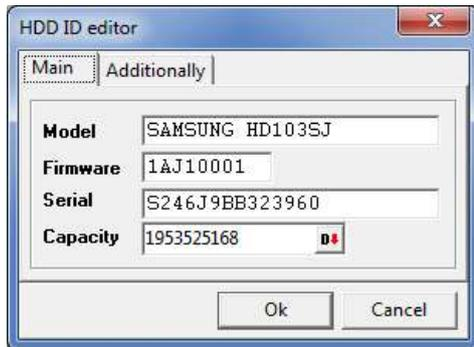

Fig. 5.14
- ◆ Editing of the model name by changing the HDD ID drive capacity in the 9D PARAM\_DM module. The Model list (Fig. 5.14) contains the manufacturer's list of standard models. When a model is selected from that list, the value in the Capacity field changes automatically. Editing of the Capacity field allows you to create nonstandard models that do not exist in the manufacturer's range of products.